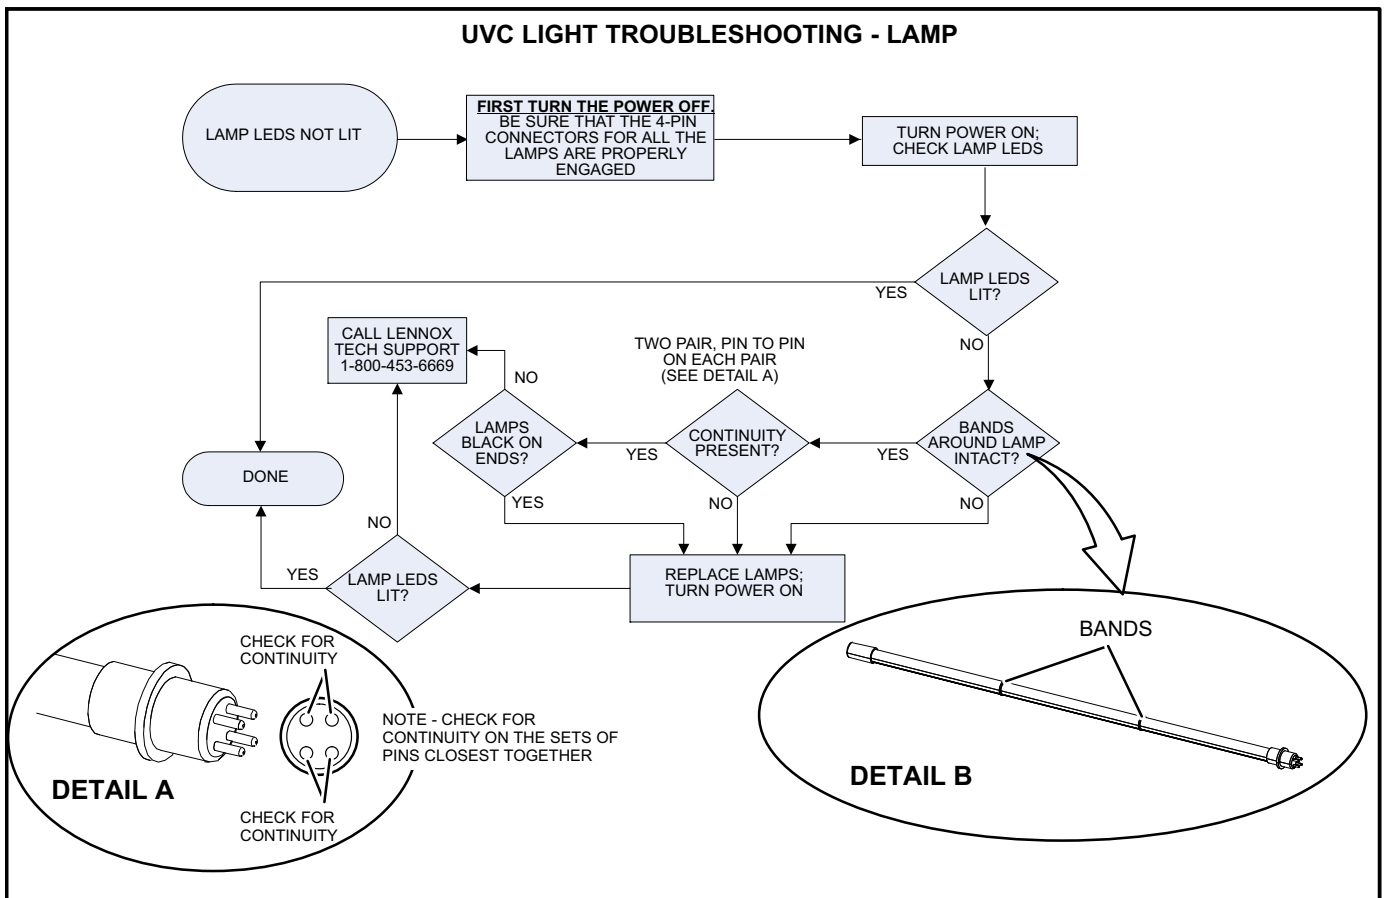

FIGURE 40
- 2- Ohm-check across the lamp pins to check for continuity of lamp filaments (see figure 40).